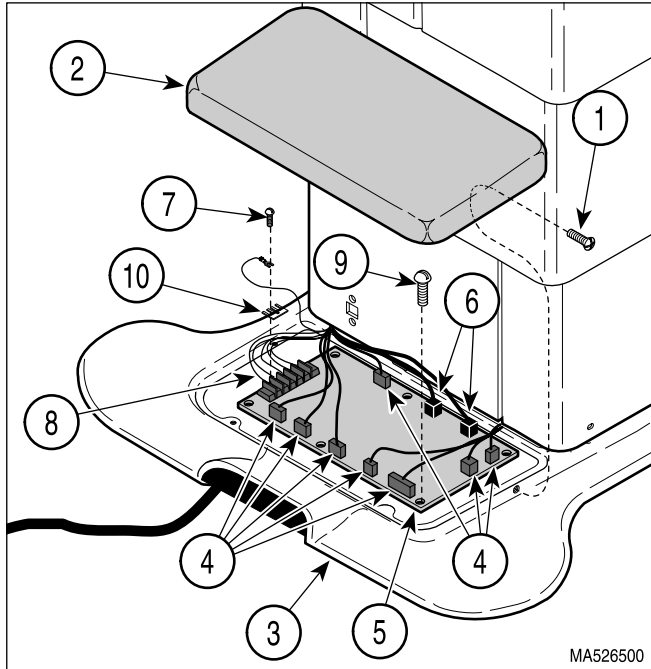

Figure 4-3. PC Control Board Removal / Installation (Non-programmable tables only)
- (1) Unplug table power cord from outlet receptacle.
- (2) Remove two screws (1, Figure 4-3) and PC board cover (2) from base casting (3).
- (3) Tag and disconnect eight wire harnesses (4) from PC control board (5).
- (4) Tag and disconnect two modular cords (6) from PC control board (5).